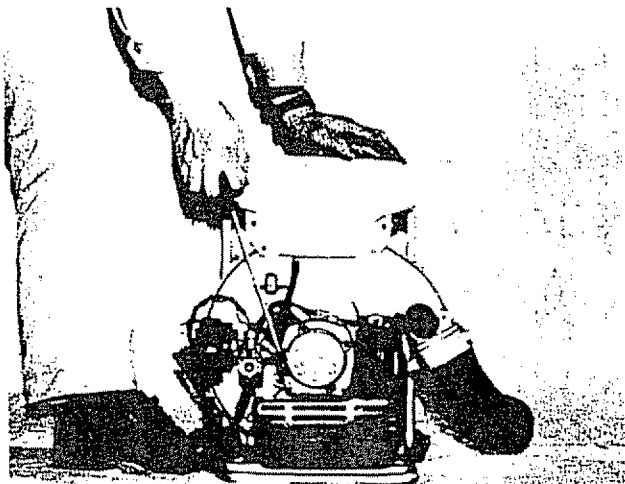

Figure 6
4. Holding the machine by your left hand and putting your left foot on the machine frame, give a strong and straight pull to recoil starter by your right hand. (Fig. 6)